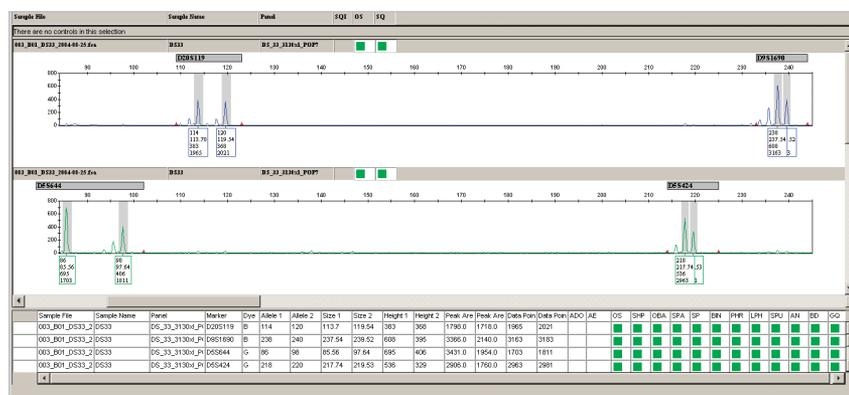

Figure 5. Advanced data management and analysis software produces intuitive data tables for fast allele scoring and data review.
Advanced algorithms in GeneMapper® software recognize and filter amplification chemistry artifacts, including Plus A and stutter peaks, by differentiating among microsatellite repeats of varying lengths. Additionally, the software uses genotyping quality (GQ) scores to flag lower quality sample files for manual review, and produces tables that can be sorted in a format that is easy to interpret. These software benefits allow researchers to review large amounts of microsatellite data accurately and rapidly (Figure 5).